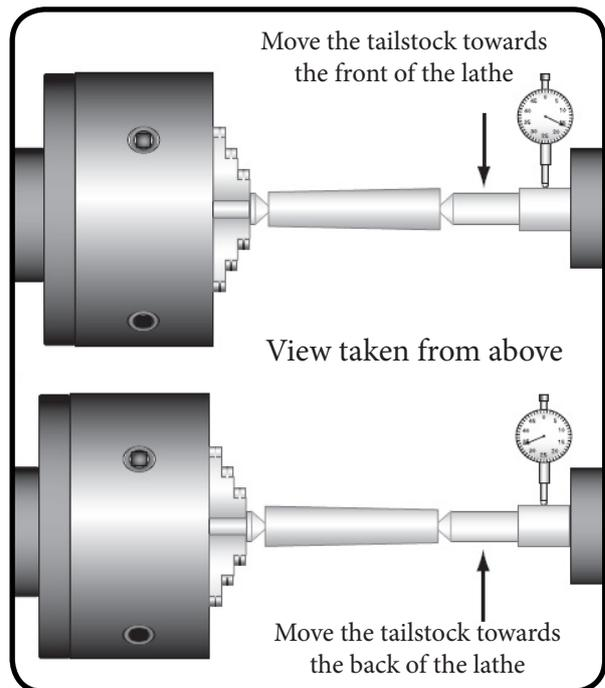

Fig. 25
6. Mount a test or dial indicator so that the plunger is on the tailstock quill and set the dial to "0" (Fig. 25)